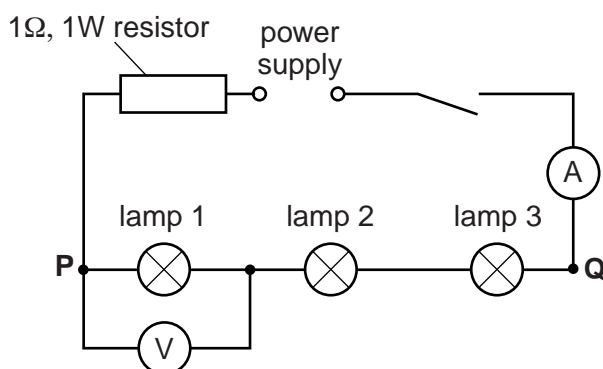

Fig. 4.1
- (vii) Sufficient connecting leads to set up the circuit shown in Fig. 4.1 plus four additional leads.
1. The circuit is to be set up for the candidates as shown in Fig. 4.1. The resistor, power supply, switch and ammeter will not be disconnected by the candidates. Suitable terminals labelled **P** and **Q** must be provided so that candidates can rearrange the rest of the circuit.
3. The lamps must be labelled lamp 1, lamp 2 and lamp 3 as shown in Fig. 4.1.
Reconnect the circuit as shown in Fig. 4.1. Check that the circuit is working.